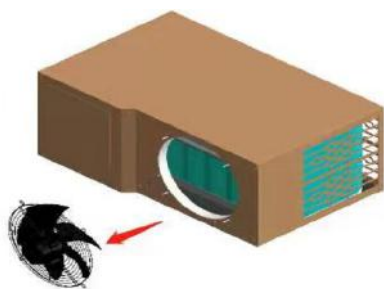

Figure 6
1. Turn off the unit and cut off the power, no need to move the unit out of the cabinet. As shown in Figure 6, loosen and remove the 4 related screws of the fan assembly and set the fan aside to reinstall once the wet film pad has been replaced.